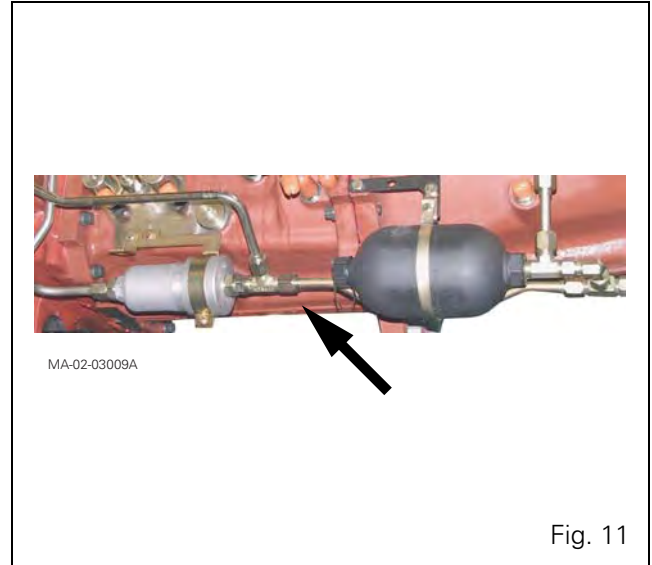

Fig. 11
- the main tube (20 bar) to the gearbox control block (Fig. 11)